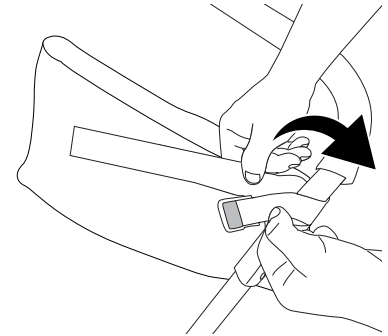

Fig. 3
- Wrap velcro strap around top of jogger handle (Fig. 3).